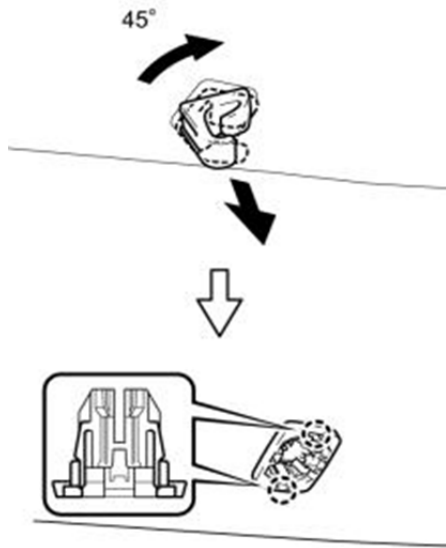

Figure 2
2. Remove the driver side visor holders. Turn the holder clockwise approximately 45° and pull it as shown in the illustration. Detach the 2 claws and remove the visor holder. Figure 2.